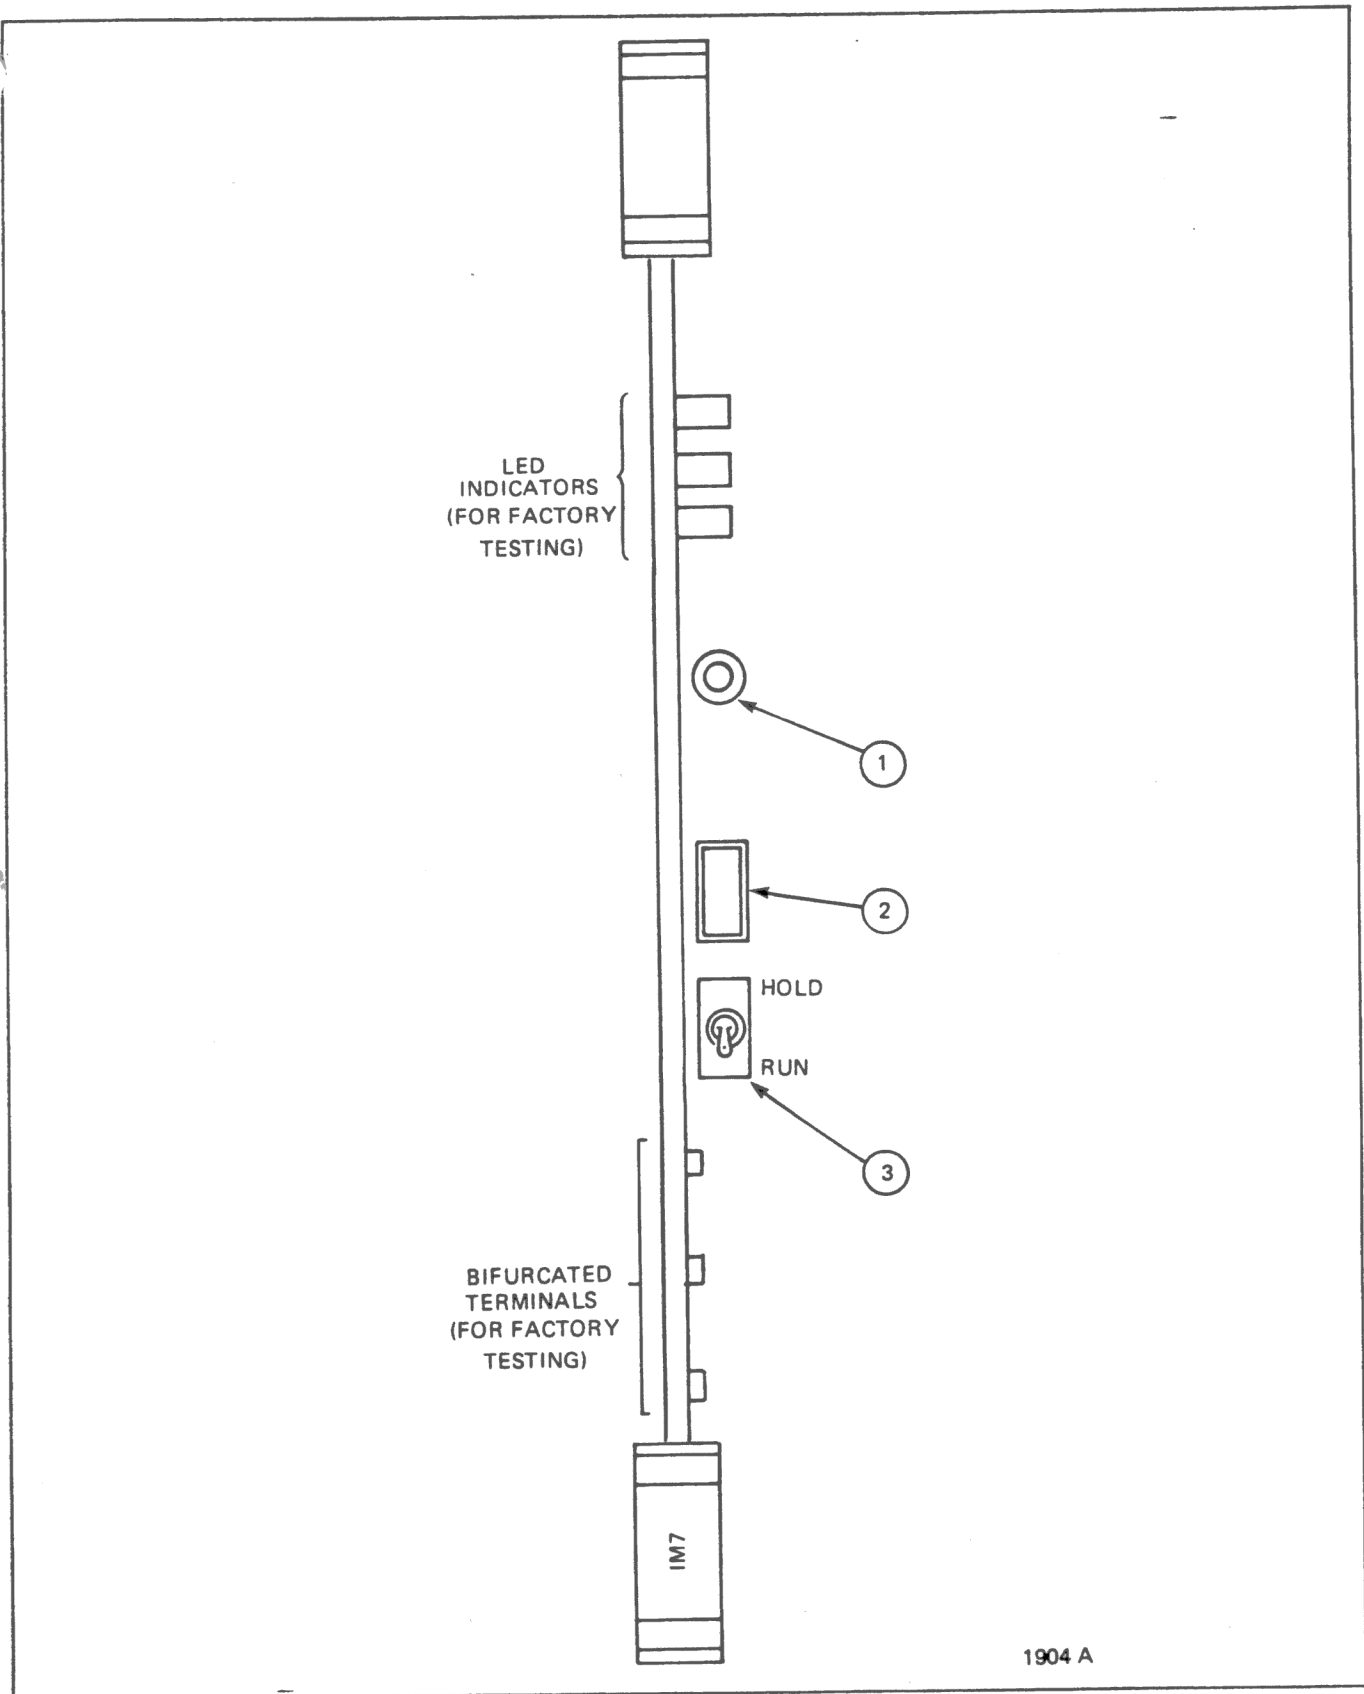
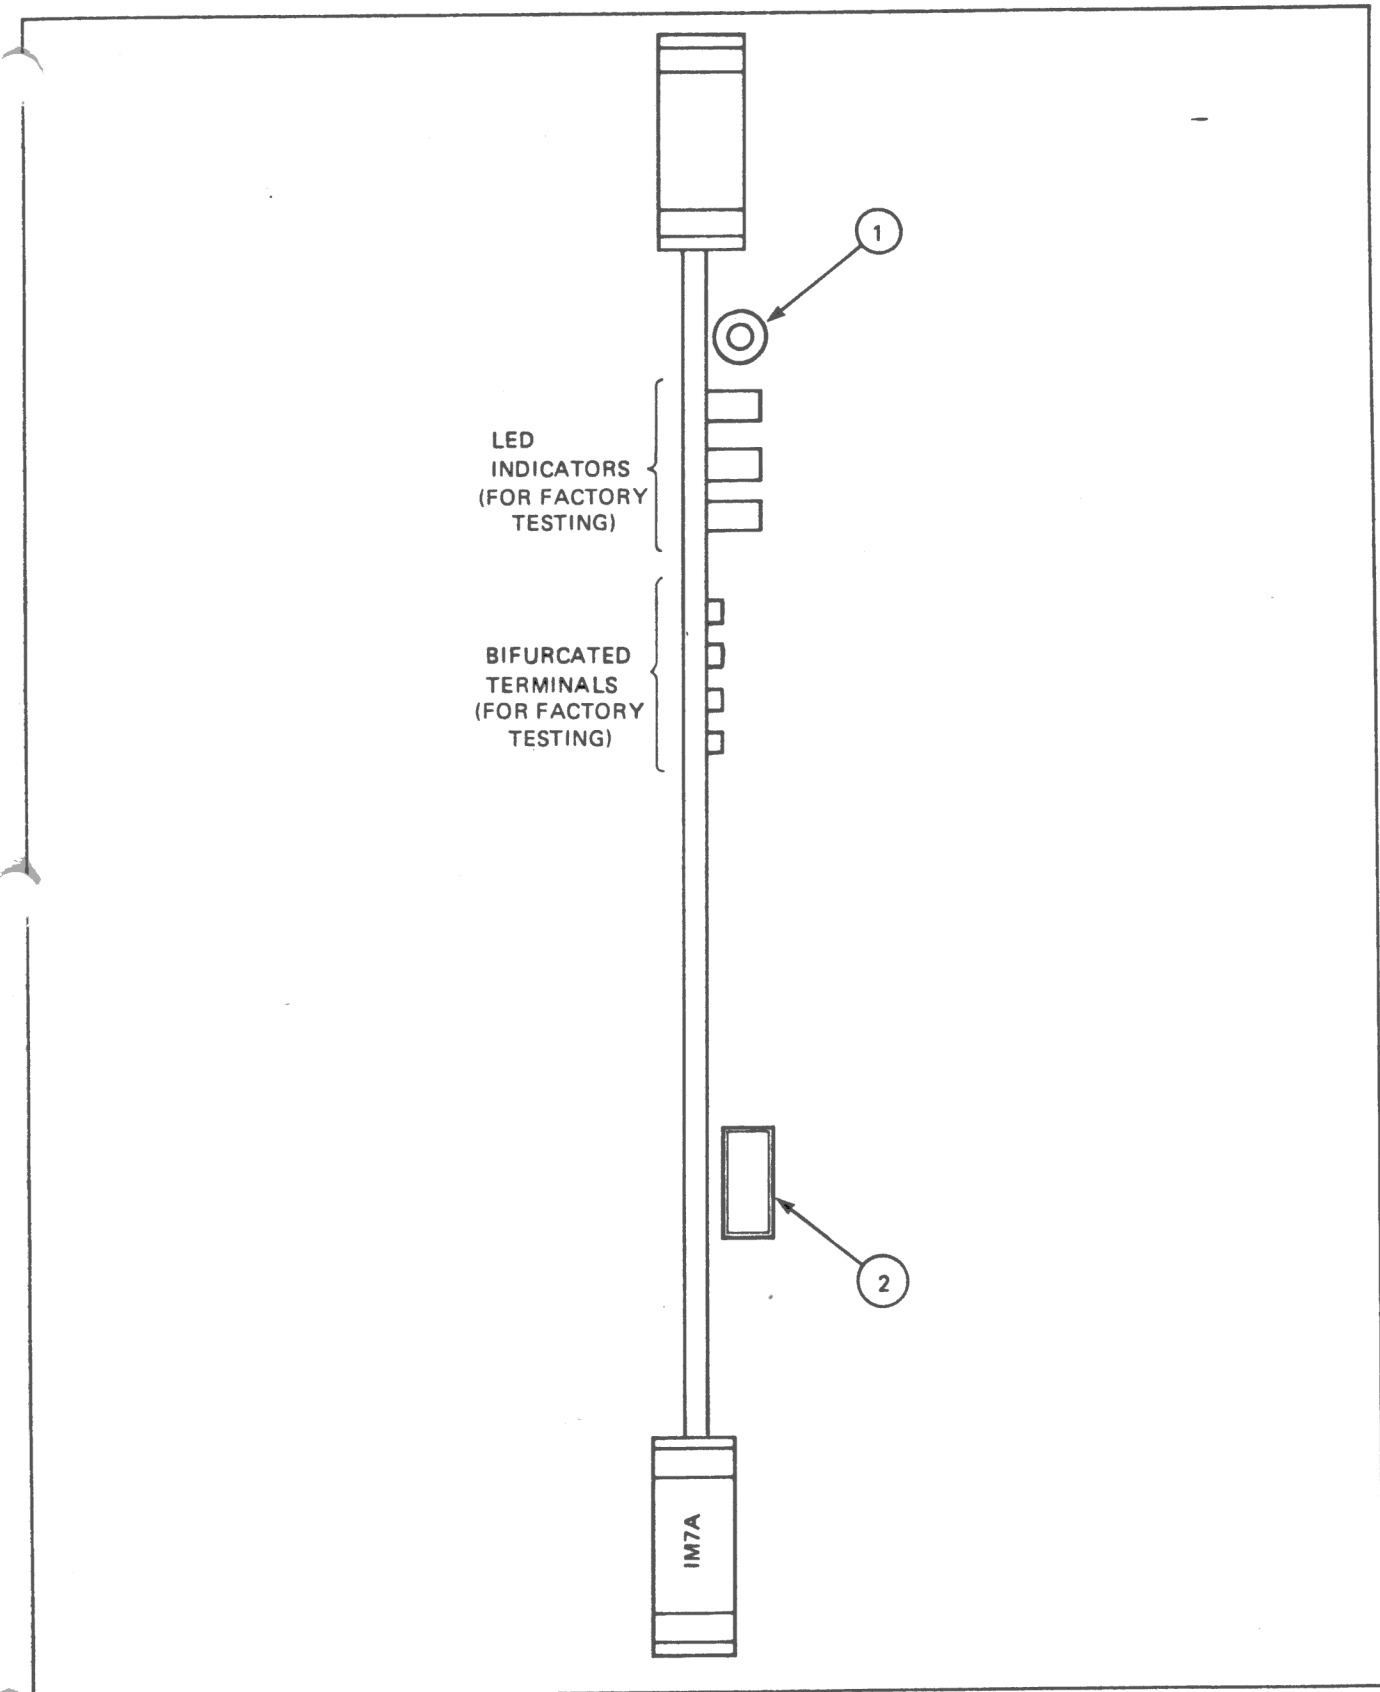

Figure 6. IM7 Circuit Pack, Controls and Indicators
Figure 7. IM7A Circuit Pack, Controls and Indicators
2.07 Each ITS System is equipped with two IM7 or IM7A circuit packs, one for the primary system and one for the secondary. The IM7 and IM7A circuit packs contain controls for loading system programs via the MTC units. Controls and indicators of the IM7 are illustrated in Figure 6 and explained in Table 5. Controls and indicators of the IM7A are illustrated in Figure 7 and explained in Table 6.
NOTE: If the system uses an IM7 bootstrap loader circuit pack, place the IM7 RUN/HOLD switch in the RUN position (Figure 6).